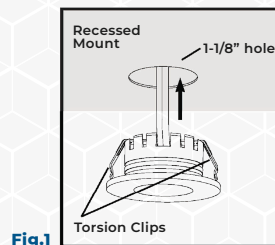
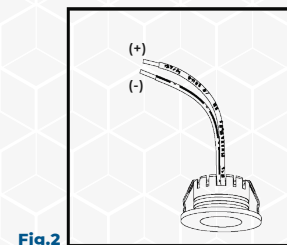

Fig.1
Fig.2
3. **For recessed mounting:** Remove the Micro LED light completely from surface mounting ring. Drill a 1-1/8" cut hole using a Forstner Bit (supplied by others) in the desired location. Run the wires through the cut hole and attach the Micro LED light flush to medium (see Fig.1). Ensure correct polarity is followed throughout the line (see Fig.2).
4. **For Hardwire:** Use wire type and gauge suitable for application to connect the fixtures, and twist-on wire connectors (supplied by others; also see Fig.3A). Ensure correct polarity is followed throughout the line (see Fig.2).